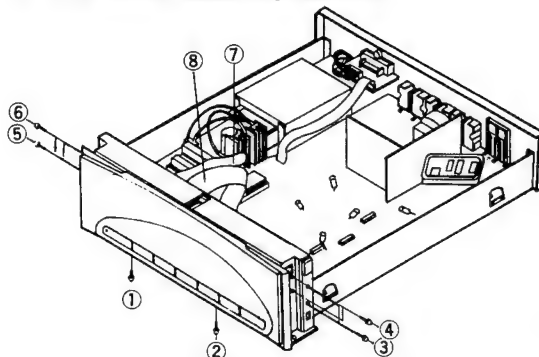

Fig. 3
1. Remove connectors ⑦ to ⑧ in Fig. 3
2. Remove screws ① to ⑥, and then remove the front panel assembly from the unit in Fig. 3
1. Remove the front panel assembly in Fig. 3. (Refer to step ④)